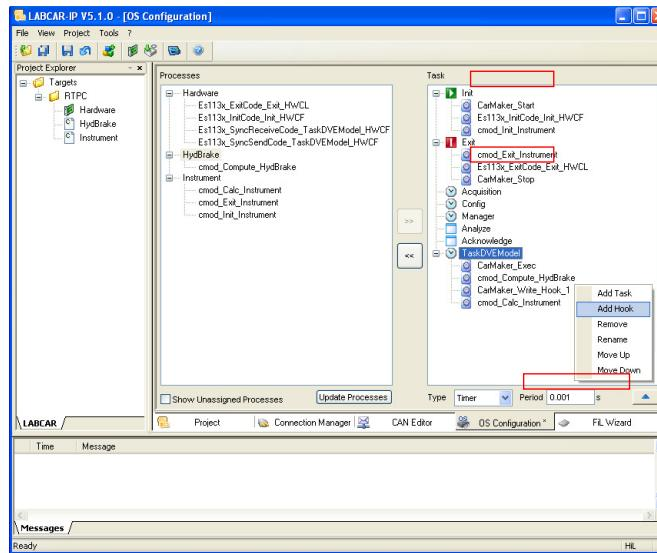

Figure 1.25: Placing hooks in LABCAR Integration Platform (IP)
To use a RT Plugin, a so called hook has to be placed at a suitable position within the LABCAR process list. This hook defines the calling context of the RT Plugin. For defining a new hook, open the LABCAR Integration Platform (IP), load your project and change to the tab "OS Configuration". To add a hook between two processes, right-click at the appropriate position within the task list and select "Add Hook" (see Figure 1.25 on page 45).